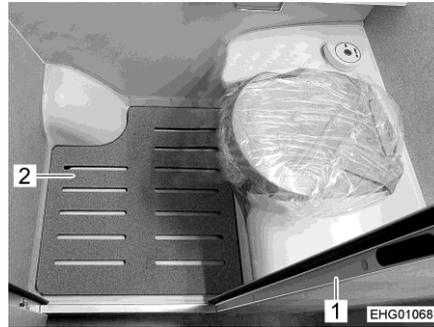

Fig. 107 Toilet compartment
- ▷ During the journey, close the louvre door (Fig. 107,1). An open louvre door could otherwise cause noises.
- Remove the shelf (Fig. 107,2) from the shower before showering.